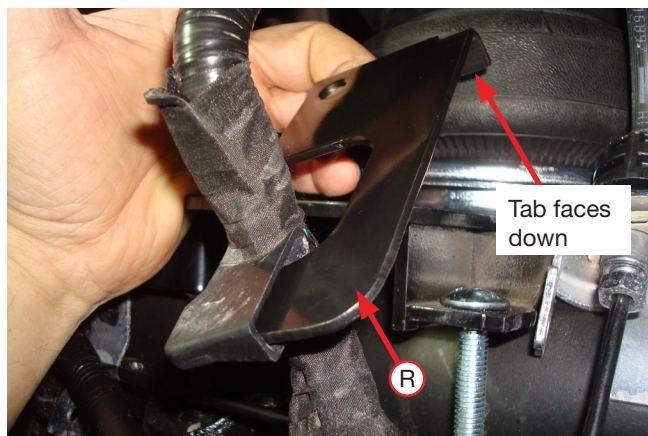
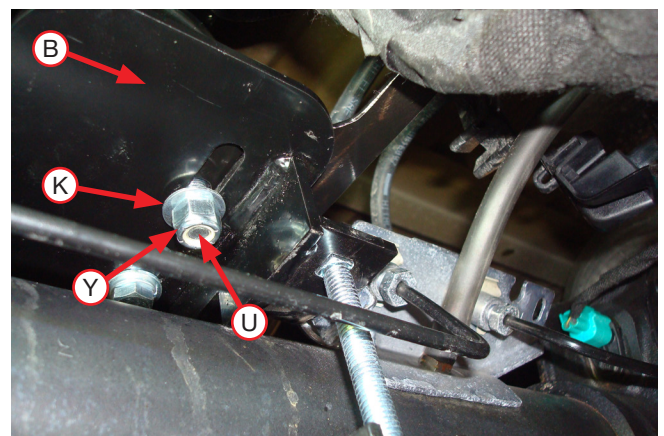

Fig. 29
Fig. 30
18. Insert the left-hand ABS wiring harness bracket (R) into the “cup” of the ABS wiring harness and secure to the lower bracket (B) with 3/8"-16 X 7/8" hex-cap screw (U), 3/8" flat washer (K), and 3/8" nylon lock nut (Y) (Fig. 29 & Fig. 30). Tighten securely.